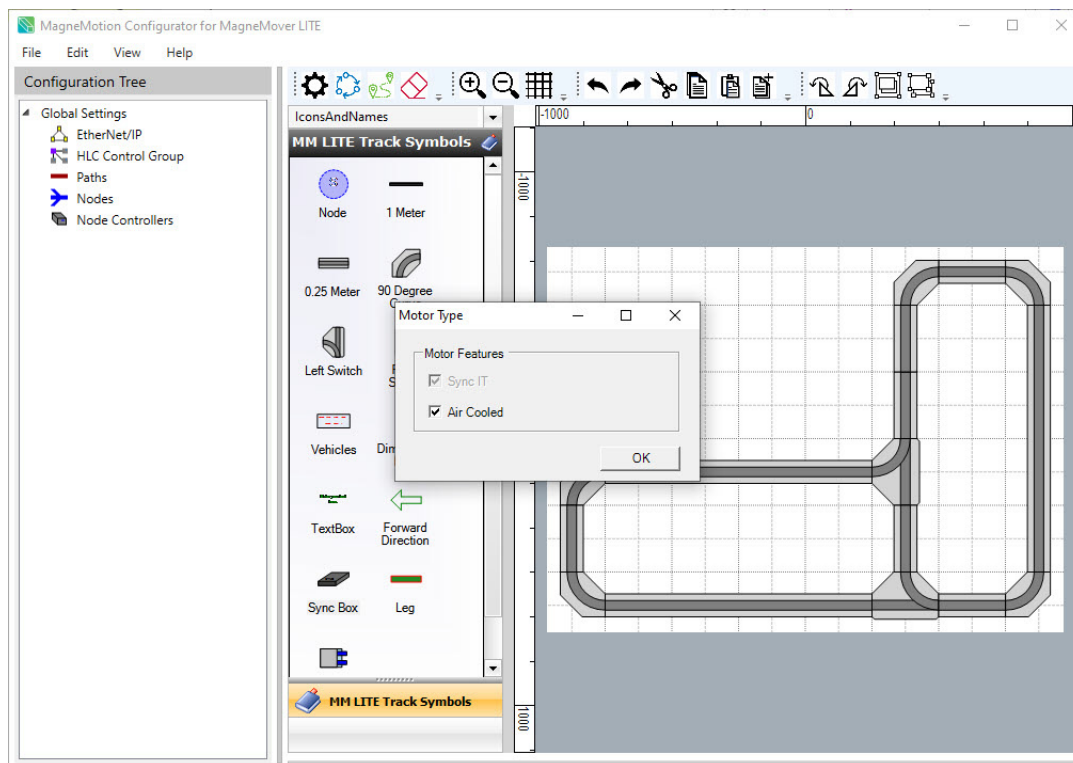

Figure 3-10: Define Motors Using the LSM Air Cooled Option
*The **Motor Type** dialog is displayed, see Figure 3-10.*
*The **Switch Type** dialog is displayed, see Figure 3-10.*